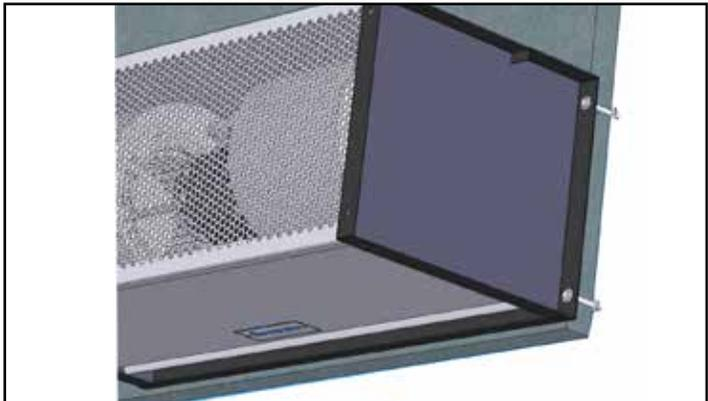
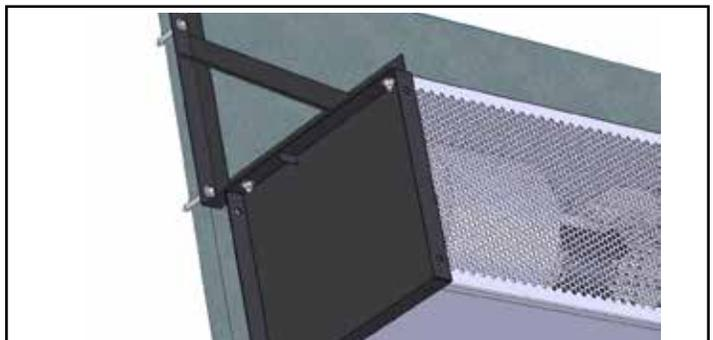

Figure 3 Wall Mounting
Figure 4 Wall Mounting Bracket
- B. The IDC12/IDC14 Series end plates are equipped with 13mm holes for wall mounting. The unit may be attached to the wall using, at minimum, M10 bolts through the holes on the back of the end plate. **See Figure 3.** Or, the unit may be attached using an optional wall mounting bracket or a combination of extension and wall mounting brackets (available from Berner) attached to the holes on the top of the end plate and the wall. **See Figure 4.**